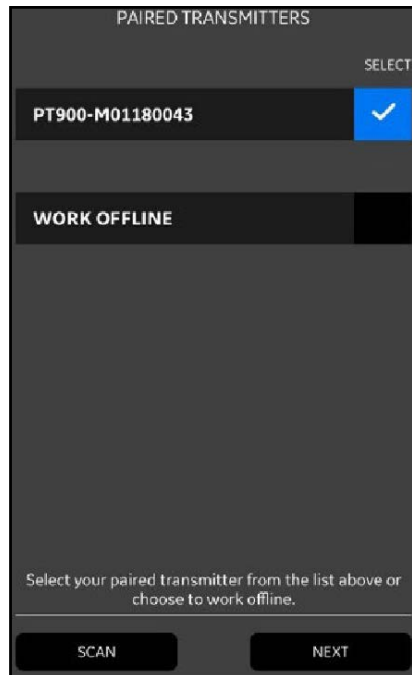

Figure 69: Paired Transmitters List
- 12.** Click the BACK button on the tablet to return to the PT900 APP main menu. Then, select your PT900 transmitter in the TRANSMITTERS PAIRED list and click NEXT to open the Main Menu. For example, the PT900-M09160025 transmitter is selected from the list in *Figure 69* below.
- Note:** If desired, you may simulate the APP operation without connecting to the transmitter. To do so, click the *WORK OFFLINE* option in *Figure 69* above.